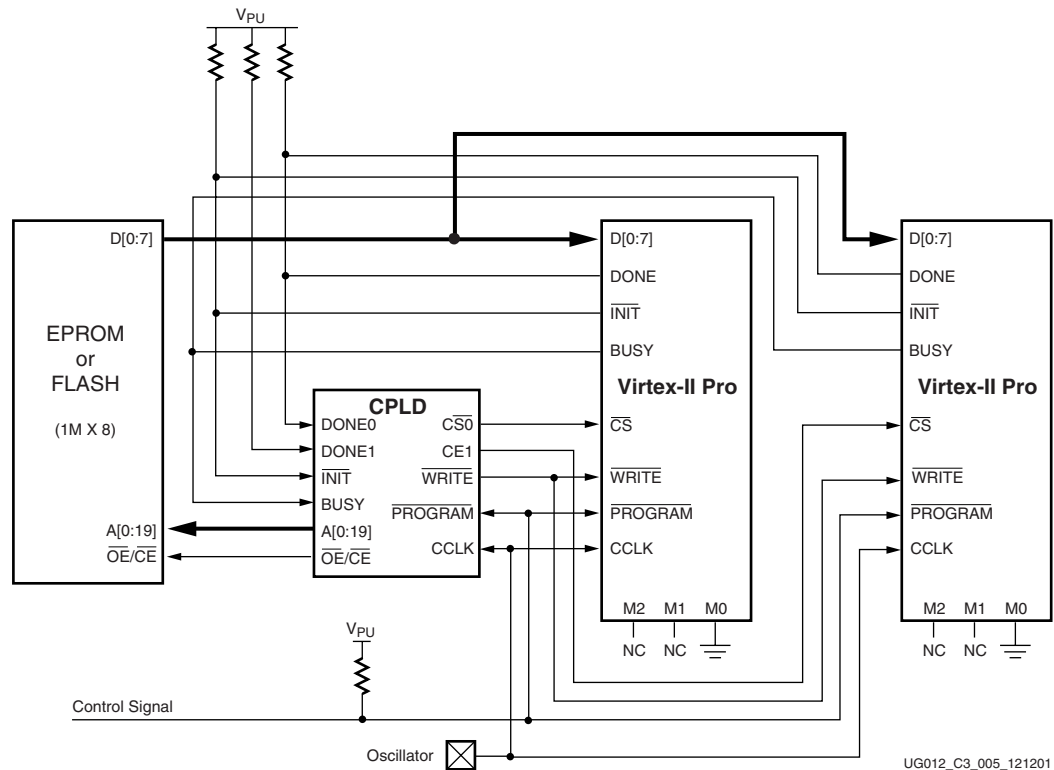

Figure 4-10: Configuring Virtex-II Pro Devices from Parallel EPROMs
- XAPP137, *Configuring Virtex FPGAs From Parallel EPROMs With a CPLD* (www.xilinx.com/apps/xappsumm.htm#xapp137) describes an architecture that configures one or more Virtex-II Pro devices using the Slave SelectMAP mode. See Figure 4-10 for an example of FPGA configuration using a CPLD and a parallel EPROM.